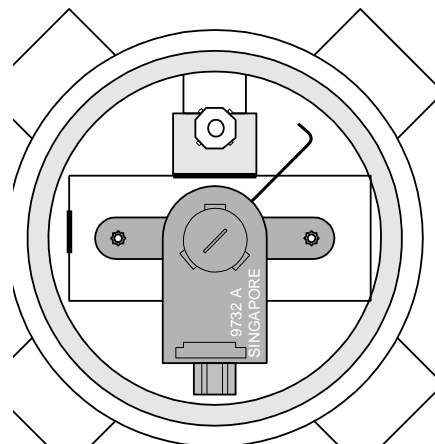

Figure 11 - Allen Key Location
9. Connect the data and limit switch connectors. Observe the wiring routing shown in Figure 11.